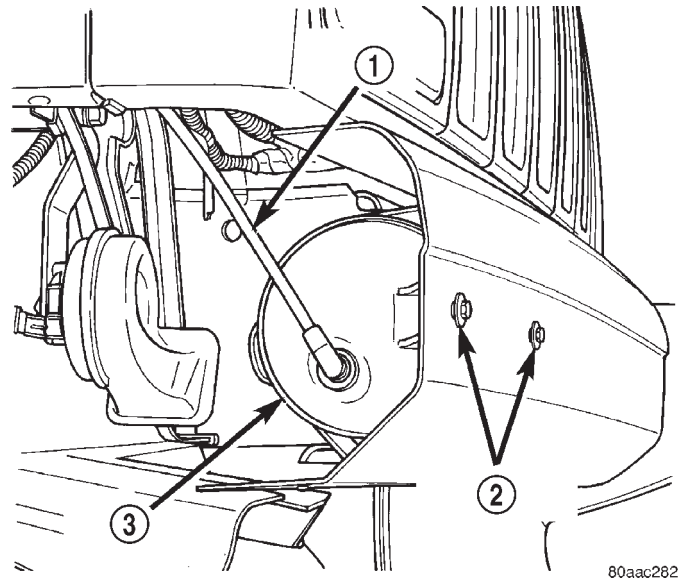

Fig. 6 Vacuum Reservoir Removal/Installation
- (1) Remove front bumper end cap. Refer to Front Bumper End Cap Removal/Installation.
- (2) Remove vacuum line at reservoir (Fig. 6).